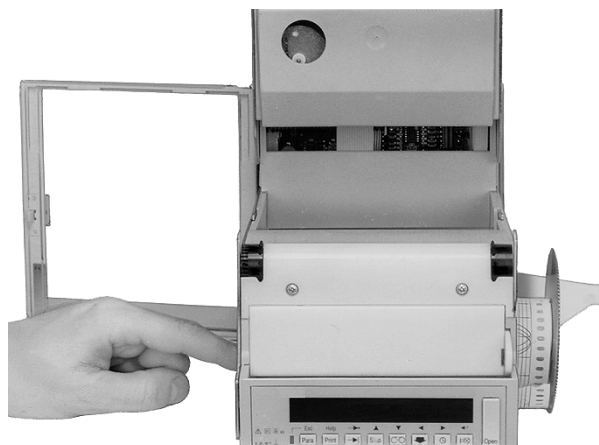

Figure 17 Removing the take-up roll
4. Remove the take-up roll with the recording chart (see Figure 17).